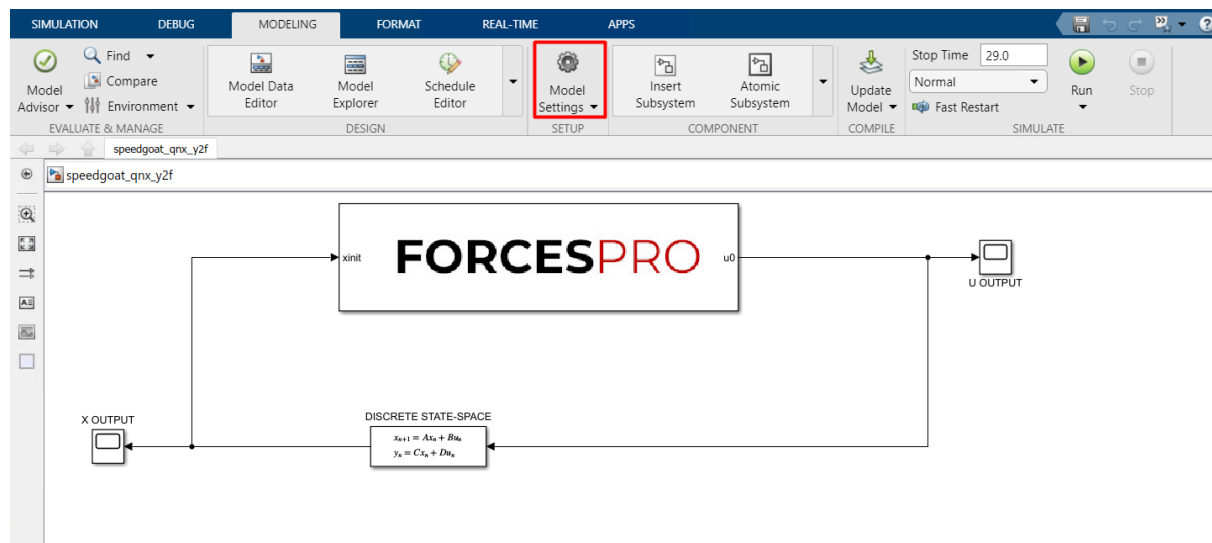

Figure 13.107: Open the Simulink Model Settings.
6. (Figure 13.107) Access the Simulink Model's Settings.